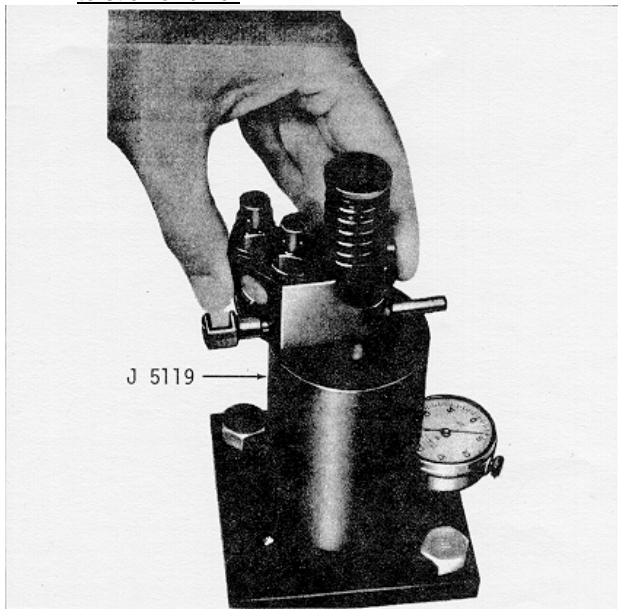

Fig. 42 Checking Injector Spray Tip Concentricity
- (1) Place the injector in the concentricity gage J 5119 as shown in Fig. 42 and adjust the dial indicator to zero.
- (2) Rotate the injector 360° and note the total runout as indicated on the dial.
- (3) If the total runout exceeds .008", remove the injector from the gage. Loosen the injector nut, center the spray tip and tighten the nut to 75-85 ft/lb. (102-115 N·m) torque. Recheck the spray tip concentricity. If, after several attempts, the spray tip cannot be positioned satisfactorily, replace the injector nut.